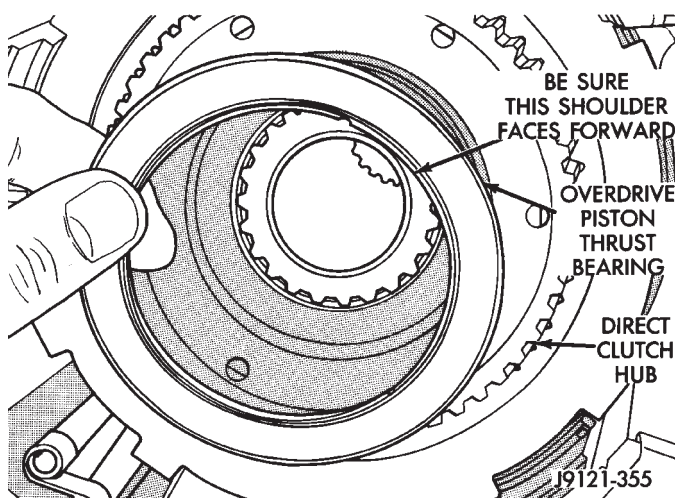

Fig. 154 Installing Overdrive Piston Thrust Bearing
(41) Install overdrive piston thrust bearing in direct clutch hub (Fig. 154). Use liberal quantity of petroleum jelly to hold thrust bearing in place. **Note that one side of bearing has dark coated surface. This surface faces overdrive piston. Also be sure raised shoulder on inside diameter of bearing faces forward as well.**